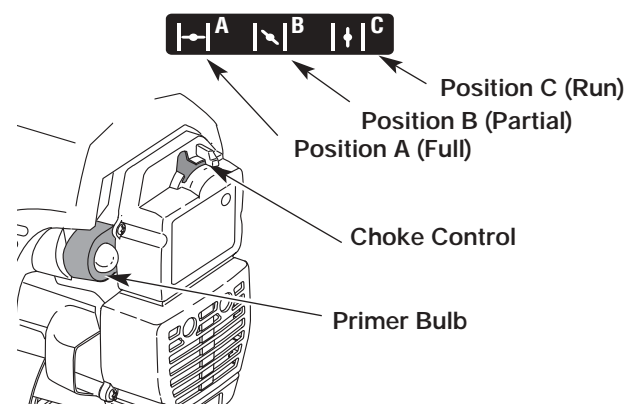

Fig. 11
2. Fully press and release the primer bulb 10 times, slowly. Some amount of **fuel should be visible in the primer bulb** and fuel lines (Fig. 11). If you can't see fuel in the bulb, press and release the bulb as many times as it takes before you can see fuel in it.
3. Place the choke lever in Position **A** (Fig. 11).